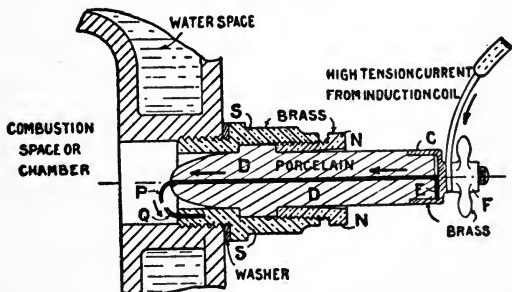

Fig. 11.
31. The Sparking Plug.—The principal features of the sparking plug or igniter are shown in Fig. 11, which
bler, and the high-tension current is induced to the secondary coil. This high-tension or secondary current passes directly to the insulated portion of the *spark plug* (as shown, Fig. 11), and being, as it were, imprisoned on all sides by insulated material through which it cannot escape, jumps across the space between the platinum points, in the path of least resistance, and in so doing produces at the right moment a stream of intensely hot sparks in the gap between the sparking plug points, igniting the explosive mixture surrounding it. The high-tension circuit being completed through the engine frame and earth wire to induction coil.